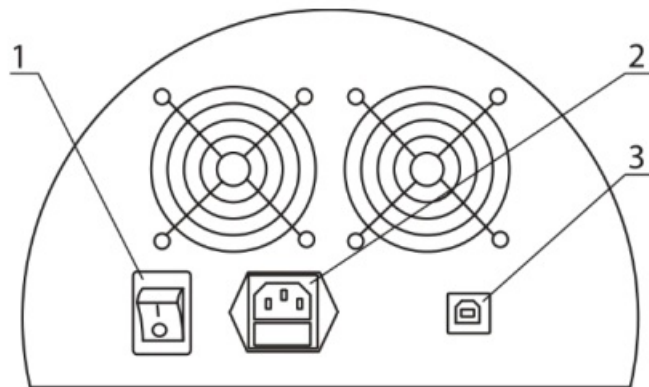

Figure 1. Rear panel of the unit
Turn on the unit by pressing the power switch on the rear panel (fig. 1/1).
- After finishing the operation, switch off the unit with the power switch (fig. 1/1).